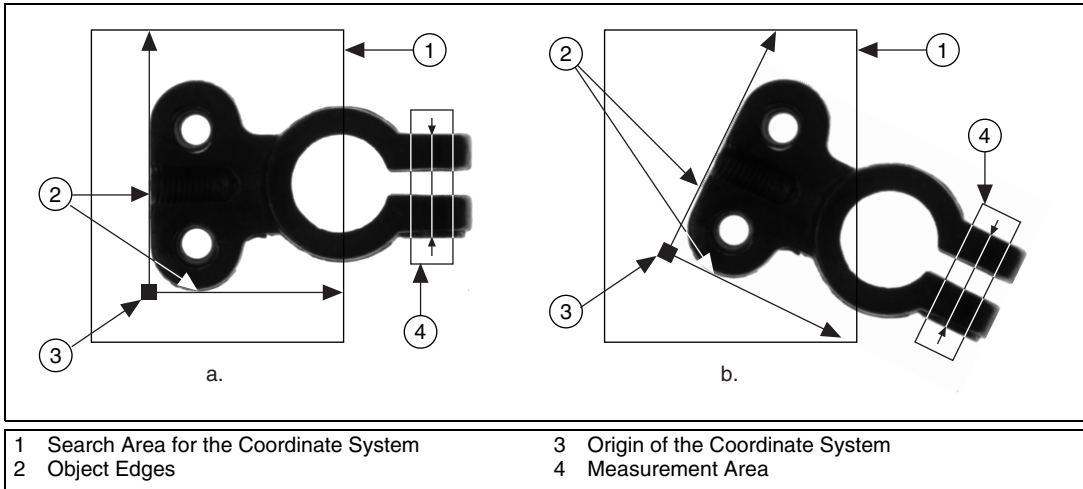

Figure 5-2. Coordinate Systems of a Reference Image and Inspection Image
- a. If you use `imgFindTransformRect()`, specify one rectangular ROI that includes part of two straight, nonparallel boundaries of the object, as shown in Figure 5-2. This rectangular region must be large enough to include these boundaries in all the images you want to inspect.